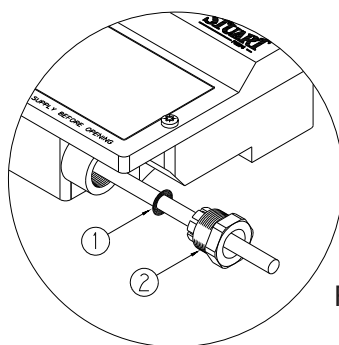

Fig. 17
To enable correct assembly of the cable gland the 'O'-ring (Fig. 17 item 1) must be placed over the cable before the clamping insert (Fig. 17 item 2) can be tightened.